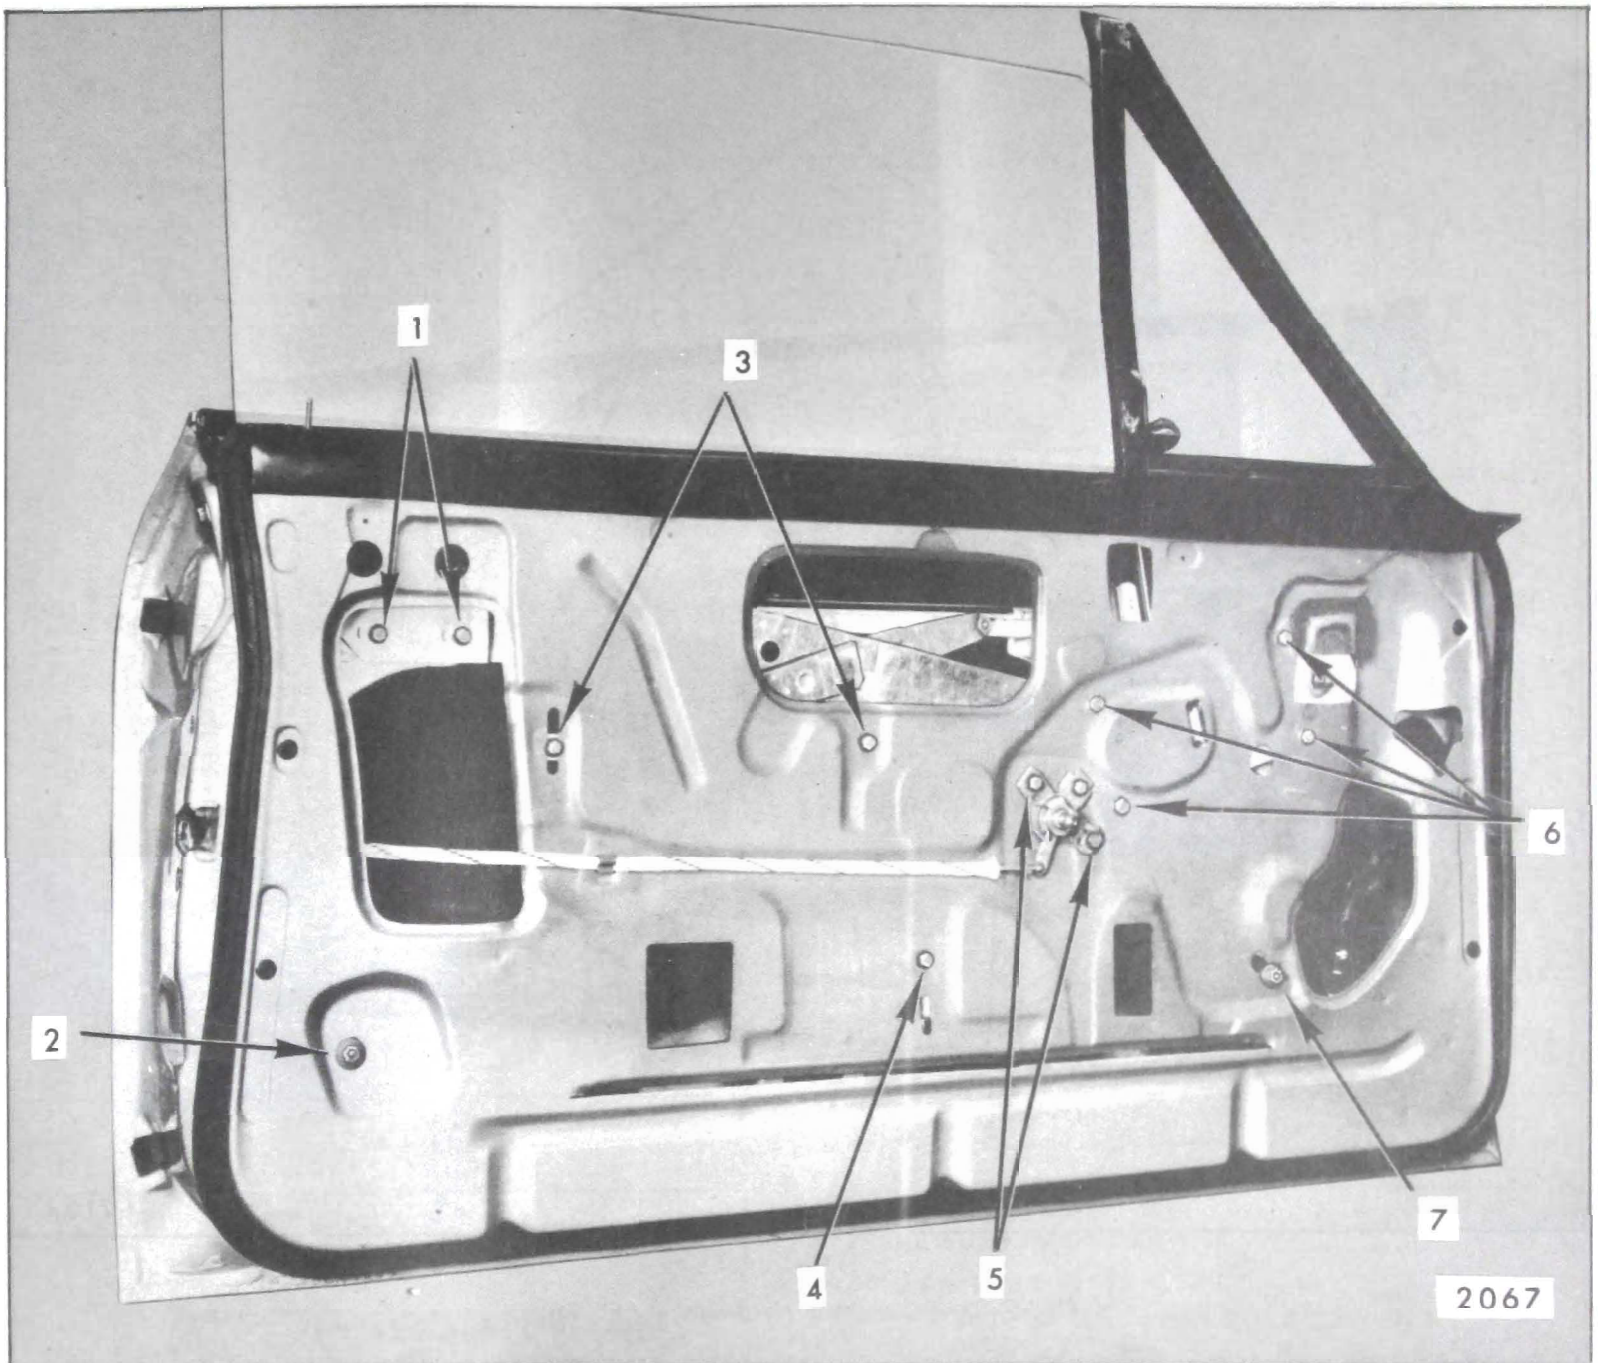
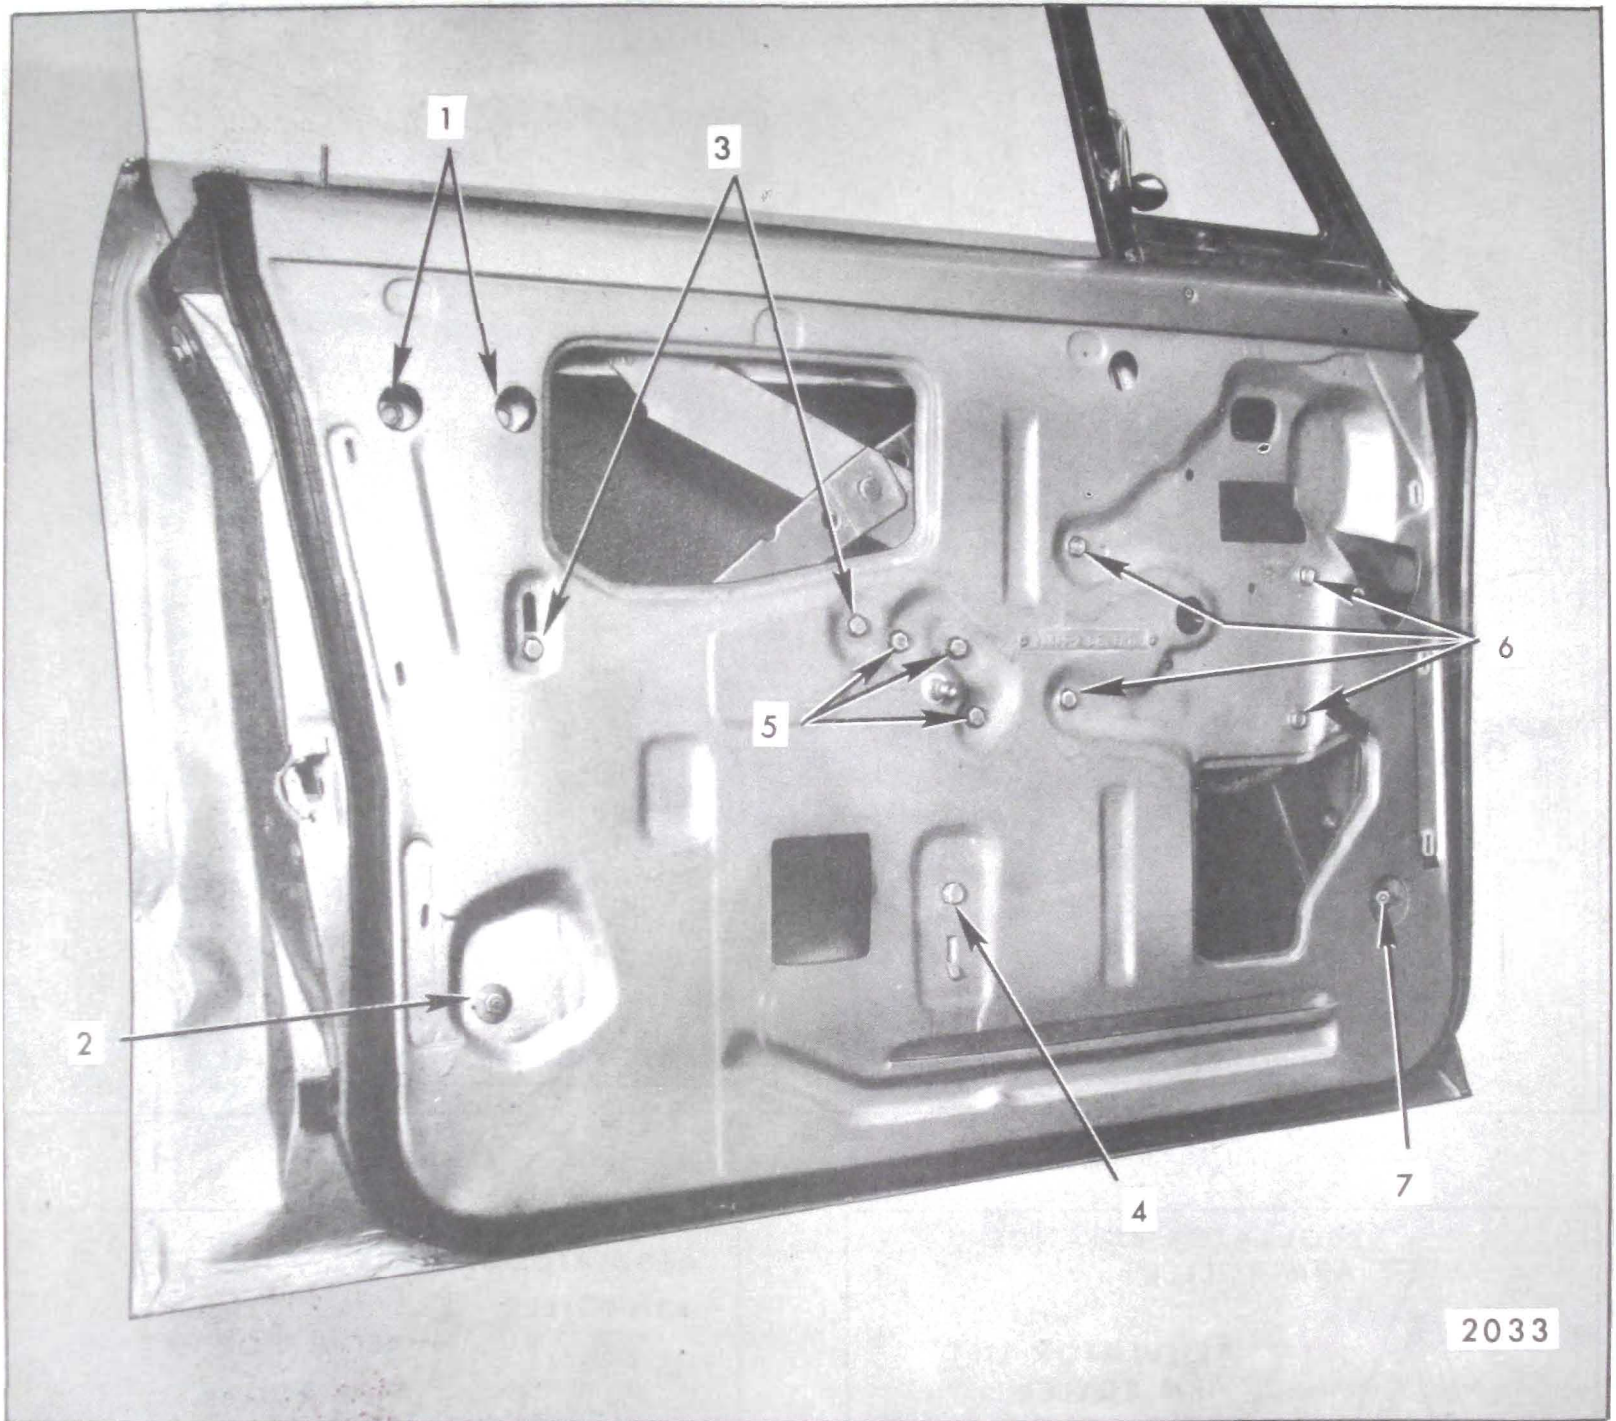

Fig. 7-82—Front Door Hardware - "A-17 and 67" Styles
Fig. 7-87—Front Door Hardware - "A-39" Style
- Raise door window to a position almost fully closed (see Fig. 7-82).
- Remove two bolts securing guide plate to glass lower sash channel and remove guide plate (see Fig. 7-82).
**NOTE:** Figure 7-82 is for "17 and 67" Styles. Refer to Figure 7-87 for "39" Styles.
3. Raise door window. Remove sash channel guide plate, front up-stop and inner panel cam (see Fig. 7-87).